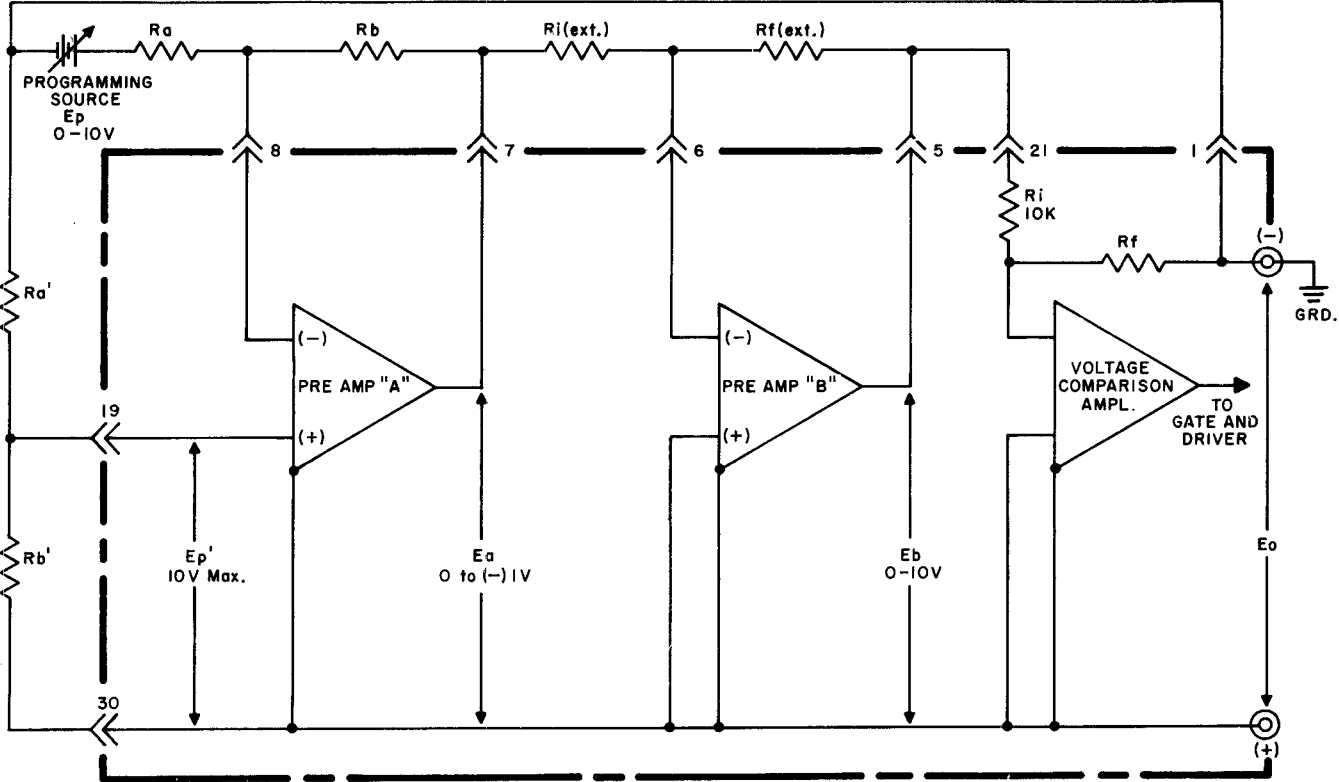

FIG. 3-29 PROGRAMMING WITH REFERENCE TO THE NEGATIVE OUTPUT SIDE OF THE ATE.
3-117 This problem is readily solved by the ATE power supply (See FIG. 3-29). PREAMP "A" is used to perform as a differential attenuator, permitting a level shift of the programming source, while PREAMP "B" brings the programming signal back to the required level (0-10V).
- Definition of Symbols in FIG. 3-29: